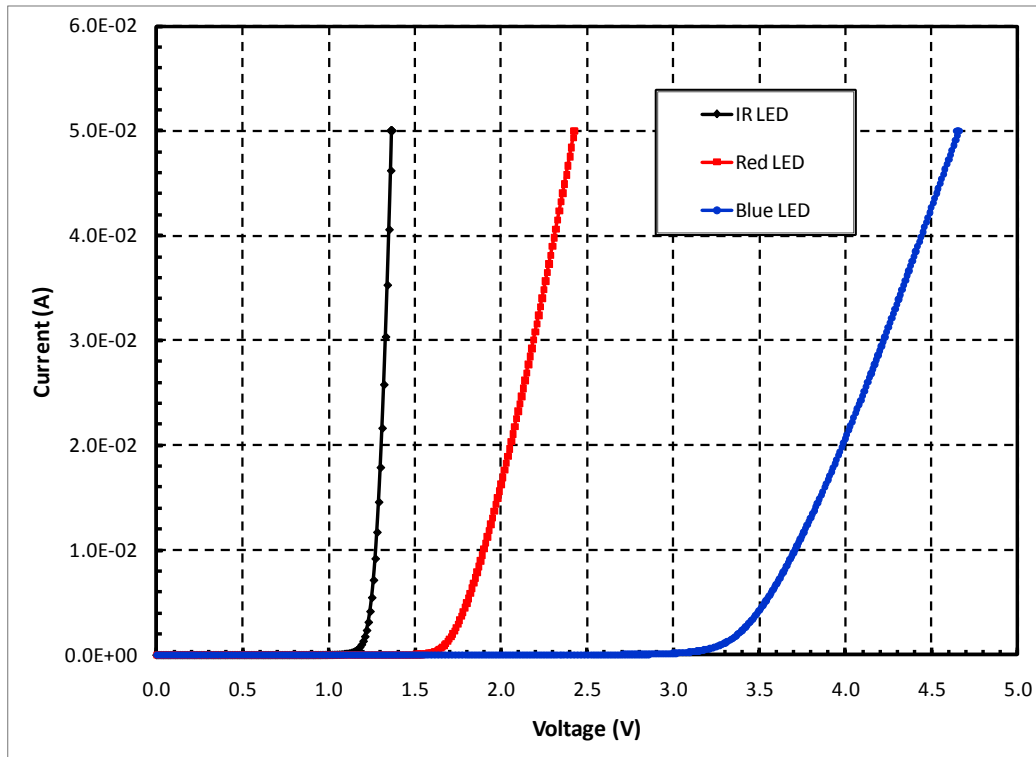

Figure 2. Typical I-V curves for the Infrared, Red and Blue LEDs.
Figure 1 shows the emission spectra of the three LEDs we will be testing as a function of wavelength as well as the sensitivity of our detector diode. Figure 2 shows the I-V characteristics of the three LEDs. Note that the turn on increases with the increasing energy of the emission.
3. Obtain the values of the forward voltage for the diode I - V characteristics shown in Fig. 2. Compare this with the values of the peak emission wavelengths shown in Table 1. (Use Eq. 2 to get energies.)
4. Estimate the series resistance from the I - V curves shown in Fig. 2.